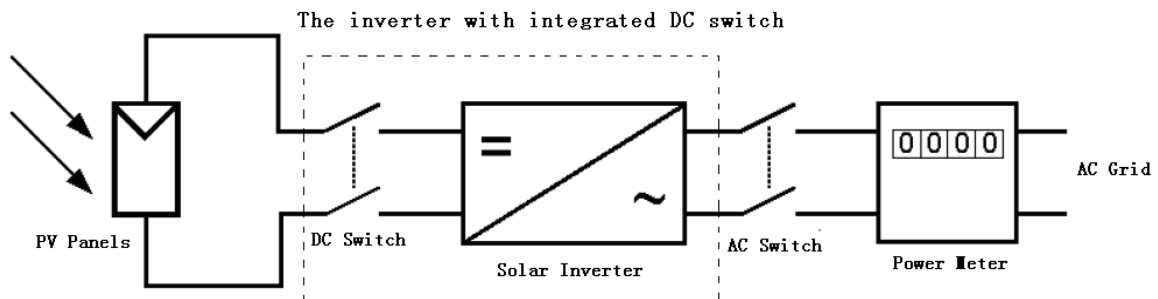

Fig.6 The PV system diagram
- C. DC Switch and AC Switch: “DC switch” is located between PV Panels and solar inverter while “AC Switch” located is between AC Grid (Utility) and solar Inverter. They are simplified in this diagram. Usually, they may consist of electrical breaker, fuse and/or connecting terminals. To comply with local safety standards and codes, the connection system should be designed and implemented by a qualified technician. The solar inverter also has an option of an integrated DC switch demonstrated in dashed border in Fig.6. –S suffix indicates the inverter is integrated a DC switch in PV input side.